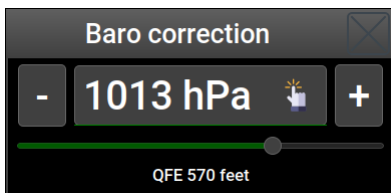

Figure 3.2: Setting the baro correction value.
- A short touch on the lower part opens baro correction window. See Section 3.1.1 and Figure 3.2.